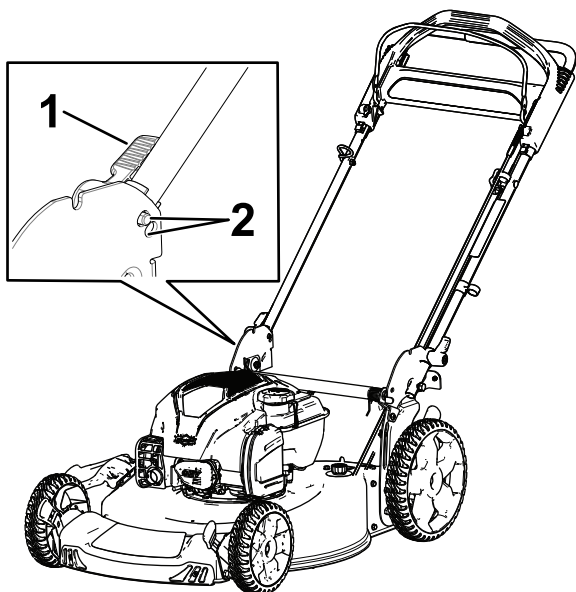

Figure 4
3. Set the handle lock in one of the two positions (Figure 4) until the pin clicks in place to lock the handle into the operating position.